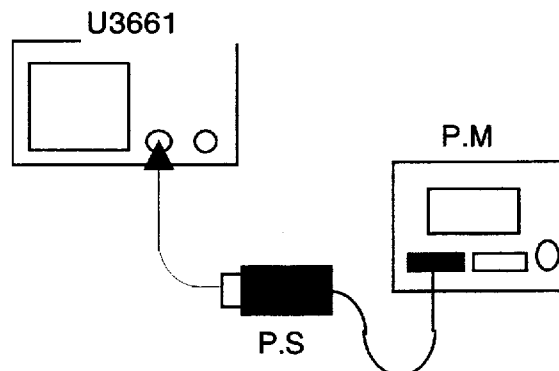

Figure 3-21 Setup of Absolute Output Level Accuracy Test
2. Connect the equipment as shown Figure3-21